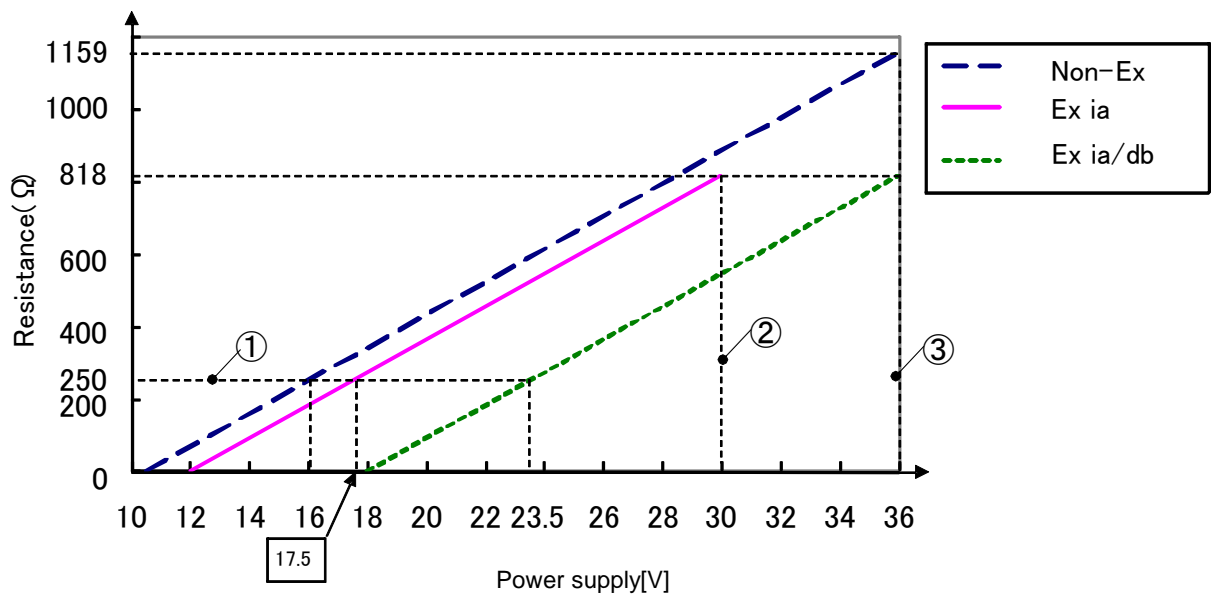

Fig 3.3.1 Load resistance
Refer to the Fig 3.3.1 for details.
The maximum load resistance at the maximum operating voltage used in each equipment specification is shown in ② and ③ in Fig 3.3.1. (for example : maximum operating voltage in the Non-Ex specification so 36V DC, maximum load resistance is 1159Ω)
① in Fig 3.3.1. (Non-Ex:16V DC, Ex ia:17.5V DC, Ex ia/db :23.5V DC)